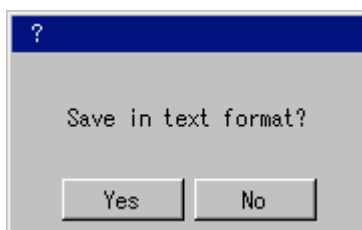

Figure 5.9 Text save check window
- 1) Press the  icon to save the result in text format. Press the <Yes> button to display the window shown in Fig. 5.9. The window shown in Fig. 5.10 is displayed. Press the <No> button to return to the previous window.
Note: If in vertical display mode, the result is displayed at the bottom of the window as shown in Fig. 5.9.